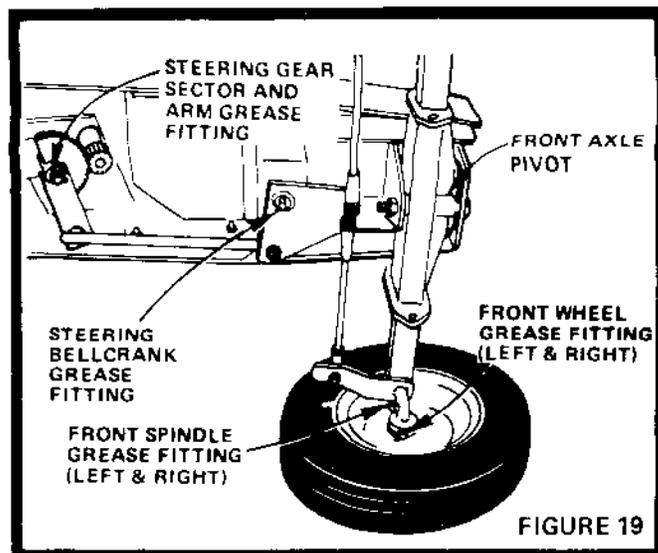

FIGURE 19
There are six Grease Fittings on your Tractor (Fig. 19). Using a Grease Gun, give each Grease Fitting two shots of Extreme Pressure Lubricating Grease Amdex No. 1 (Available through your Sears store).
- b. Front Axle Pivot (Fig. 19)